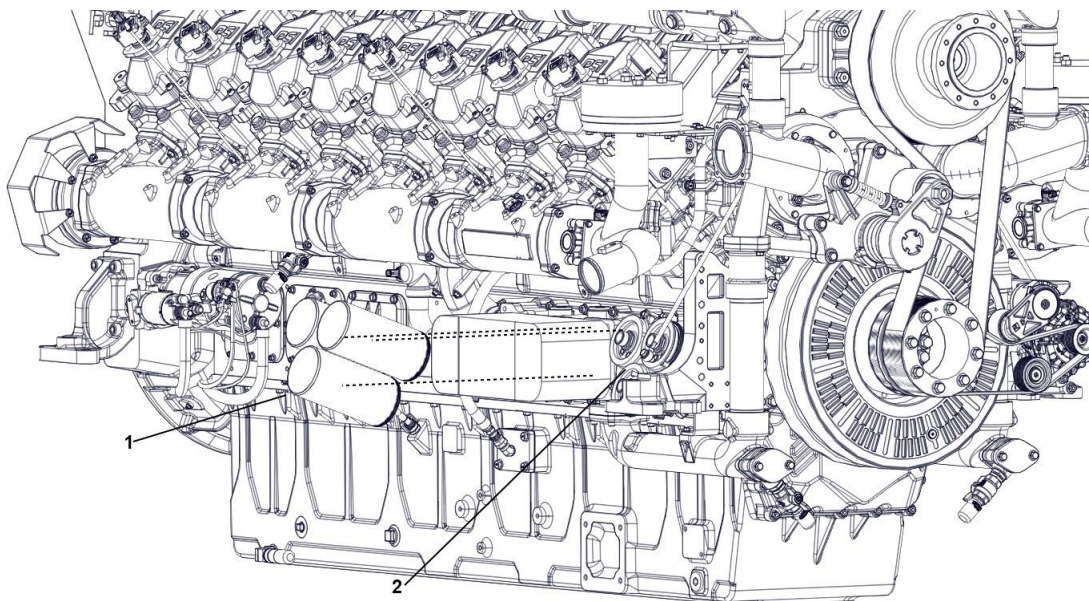

Figure 167. Engine Oil Filter Assembly
1. Separate the oil filters (Figure 167, Item 1) from the oil filter seat (Figure 167, Item 2).